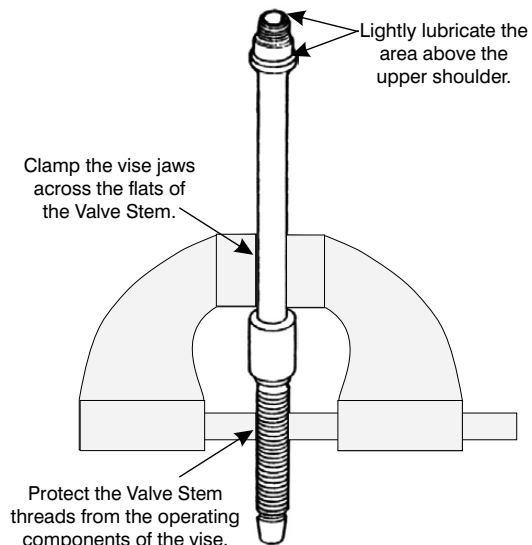
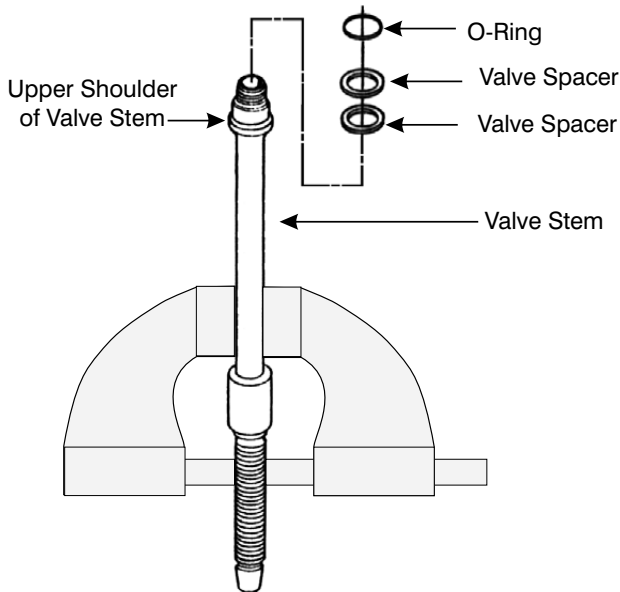

Figure 9-7. Valve Stem in Vise
Figure 9-8. Install Lower Spacers and O-Ring
- 1. Secure the Valve Stem (8) vertically in a vise. The vise jaws should grip the Valve Stem squarely across the Valve Stem flats as shown in Figure 9-7.
3. Lightly lubricate the threads and plain hub above the upper shoulder of the Valve Stem as shown in Figure 9-7.
4. Obtain two Spacers (5) and one O-Ring (6). Lightly lubricate each of these components.
5. Slide the two Spacers (5) over the threads and onto the hub of the Valve Stem. Seat the Spacers squarely against the flat upper shoulder of the stem. Refer to Figure 9-8.
6. Slide the O-ring (6) over the threads and onto the hub of the Valve Stem. Seat the O-ring squarely against the upper Spacer. Refer to Figure 9-8.